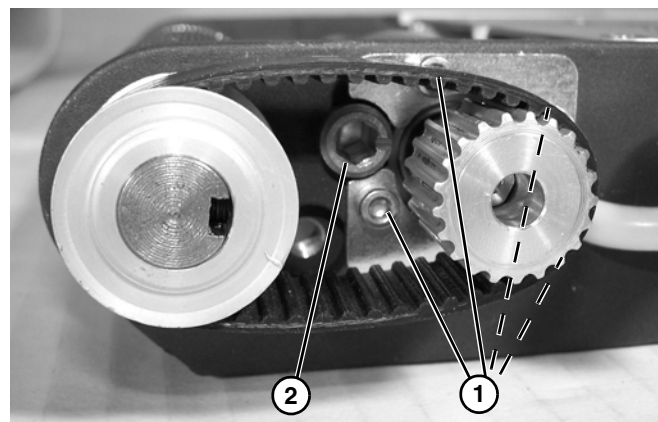

Figure 74
4. Loosen four clamp plate screws (**Figure 74, item 1**).
5. Loosen timing belt tension cam (**Figure 74, item 2**).